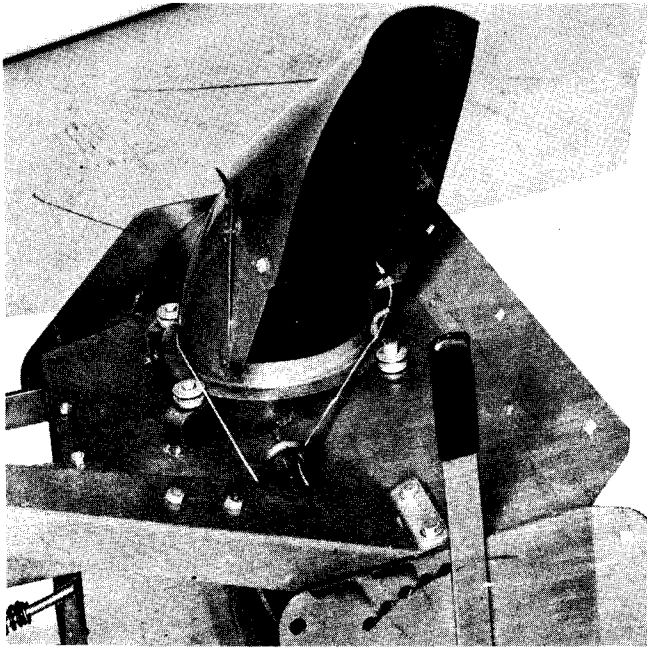

FIGURE 8
4. Attach the crank support assembly to the blower housing and line up the holes in the crank support with the two holes in the blower housing and the two holes in the bracket. A reinforcing plate is used to support the assembly to the blower housing as shown in figure 8 and the exploded view drawing.